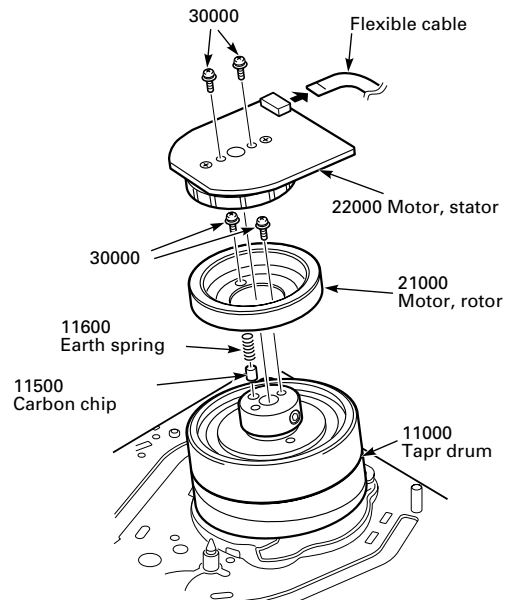

Fig. 8.37
- Undo two screws (30000), remove the stator (22000) and the tape drum earth spring (11600, Fig. 8.37).
- When turning the mechanism upside down now, the carbon chip (11500) will fall out (Fig. 8.37).
- Undo two screws (30000) and remove the rotor (Pos. 21000, Fig. 8.37).